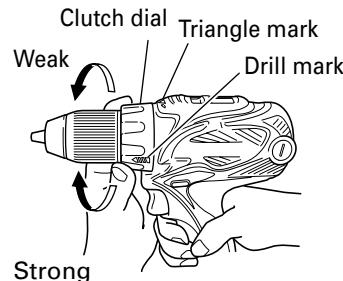

Fig. 6
- Confirm the clutch dial position (See Fig. 6)
(2) Tightening torque indication (See Fig. 6)
(3) Adjusting the tightening torque (See Fig. 6)